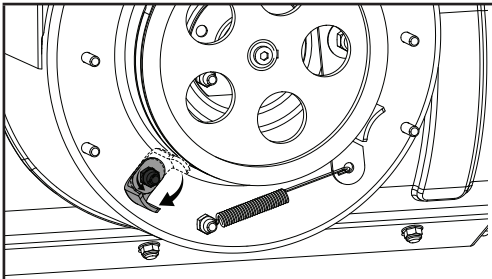

Figure 41
- Unscrew the bolt on the belt guard (Fig. 41).